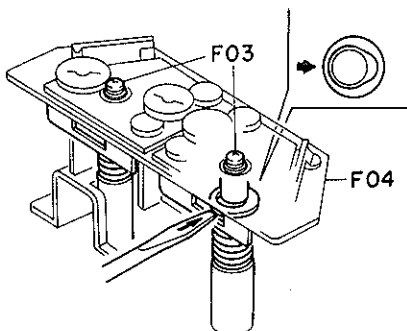

Fig. 2.9.3
- (b) Install F05 (Head Mount Base Ass'y) and fasten F03 (2 pcs.). Push the Plate Washers with a blade of the screwdriver so that the Plate Washers come off the grooves. See Fig. 2.9.3.
- (1) 400 Hz Level Tape (DA09005B)
- (2) 1 kHz Track Alignment Tape (DA09007B)
- (3) 10 kHz PB Frequency Response Tape (DA09003B)
- (4) 15 kHz PB Frequency Response Tape (DA09002B)
- (5) 20 kHz PB Frequency Response Tape (DA09001B)
- (6) 15 kHz Azimuth Tape (DA09004B)
- (7) 3 kHz Speed and Wow/Flutter Tape (DA09006C)
- (8) Tape Travelling Cassette (DA09071A)
- (9) Reference EXII Tape (DA09111A)
- (10) Reference SX Tape (DA09110A)